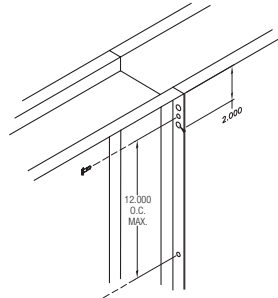

Figure 2
- 3) Due to shipping constraints, some large damper assemblies may ship in multiple sections and require field assembly. The damper sections must be attached together with #14 sheet metal screws, ¼ in. (6 mm) diameter nuts and bolts, tack or spot welds, or ⅜ in. (4 mm) diameter steel pop rivets. Attachments must be spaced a maximum of 12 in. (305 mm) on center and a maximum of 2 in. (51 mm) from corners. Attachments must be made on front face and back face (air entering and air exiting side) of damper sections. See **Figure 2**.